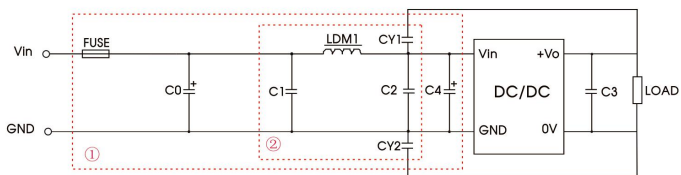

Fig. 5
Notes: For EMC tests we use Part ① in Fig. 5 for immunity and part ② for emissions test. Selecting based on needs.